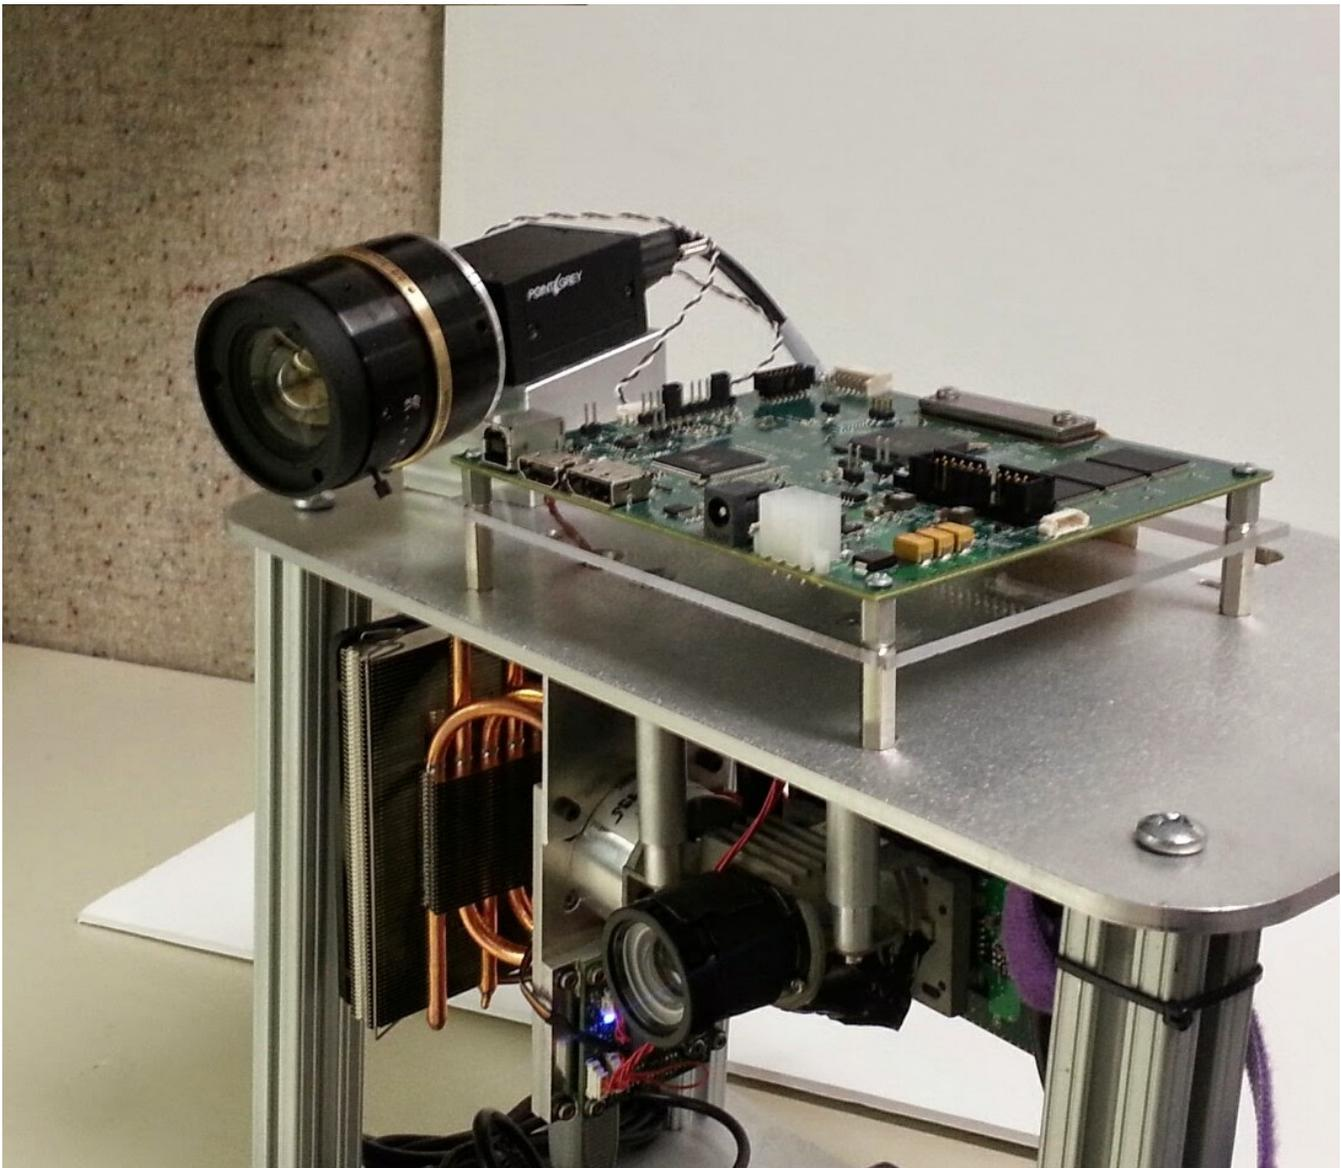

Figure 3-9. Projector, Camera, Object Spatial Orientation
4. Make sure there is sufficient distance between the camera and the projector. The camera and projector should be separated by a 20 to 45 degree angle as formed by the object being scanned, shown in Figure 3-9.